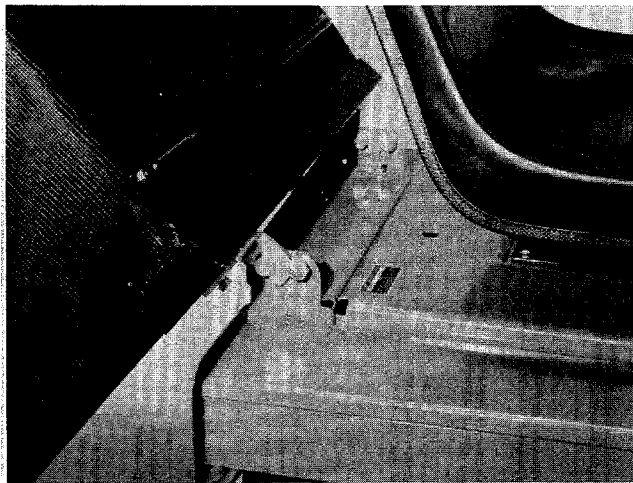

FIGURE 26.
8. Assemble the grass catcher to riding mower. See figure 26.